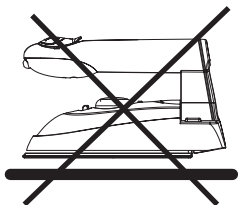
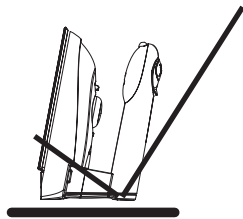

Fig.8
Fig.9
4. When iron heated and not in use, do not place the iron with soleplate surface directly to anythings. It may cause burn because high temperature. Instead, place the iron vertical on a horizontal board, or place the iron with the soleplate on a special board.(Fig.8, Fig.9)